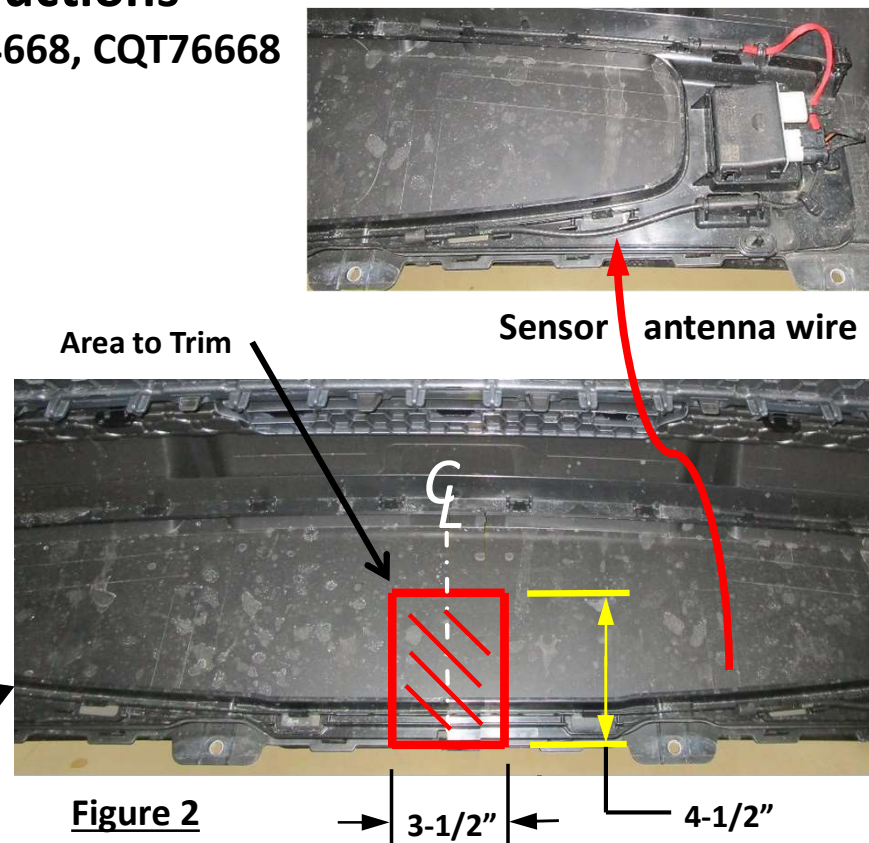

Figure 2
5. **Trim Bumper Fascia** – Using a tape measure and marker, measure and mark the bumper fascia per **Figure 2**. Using a reciprocating saw, trim fascia as shown.
IMPORTANT NOTE: If sensor antenna wire is present in the center of bumper fascia, unclip the sensor wire from inside of bumper fascia and move it out of the center trim area. **Figure 2.**